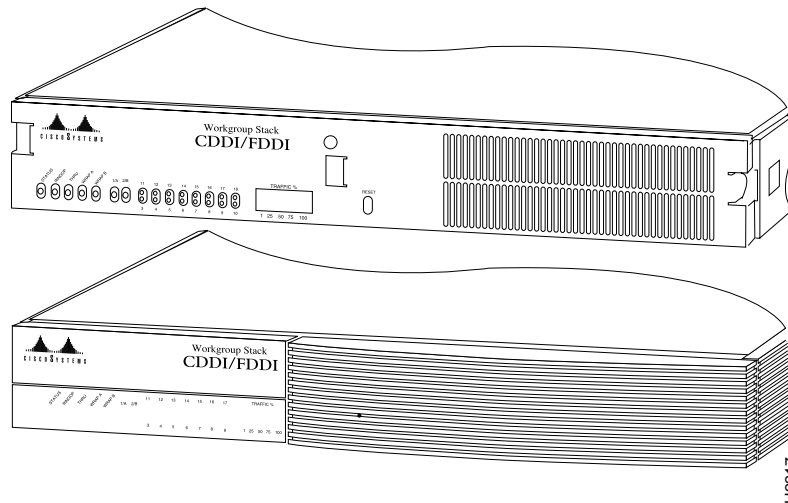
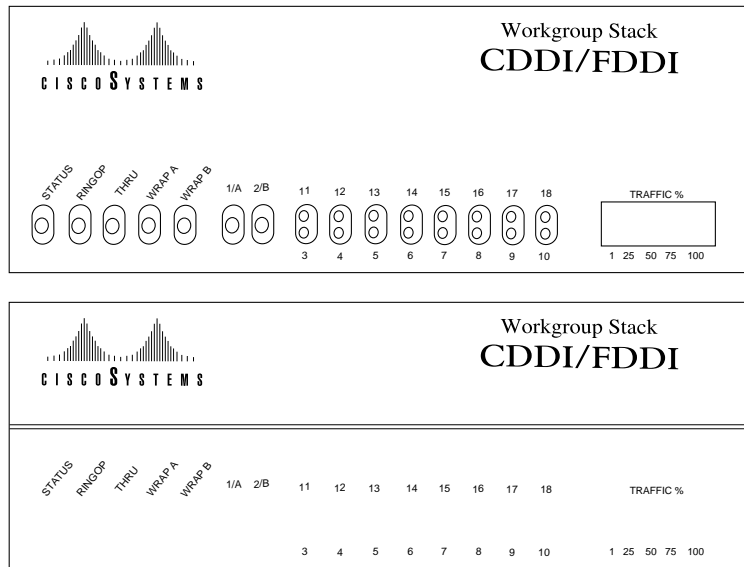
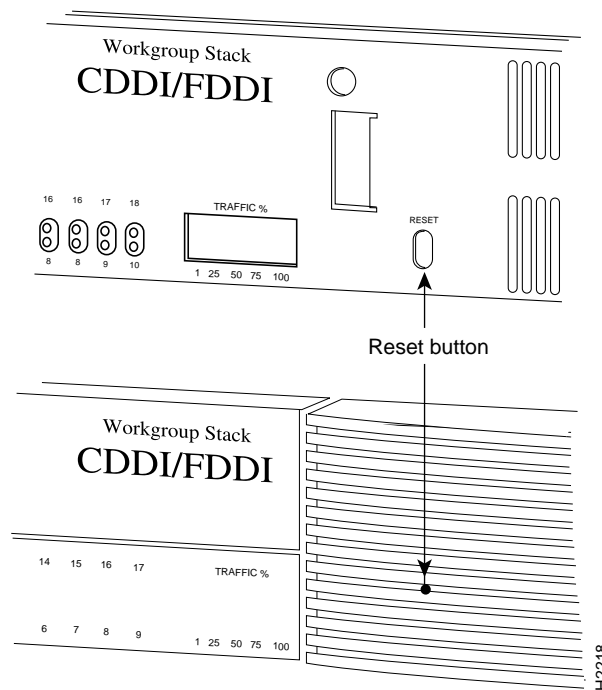

Figure 1-1 CDDI/FDDI Workgroup Concentrator—Front-Panel View
Figure 1-2 LED Indicators—Partial Front-Panel View
Figure 1-4 Reset Button—Partial Front-Panel View
The front panel of the concentrator has light-emitting diode (LED) indicators for concentrator, ring, and port status, and port traffic. There is also a reset button that is used to reset the system. (See Figure 1-1.)
**Note** In Figure 1-1, Figure 1-2, and Figure 1-4, the concentrator is shown with the plastic front panel removed and installed. The presence of this panel depends on your installation requirements.
The LEDs on the concentrator front panel (see Figure 1-2) indicate the status of the concentrator (faulty/not faulty), the status of the ring, the configuration state of the dual ring, and the status of each port.
You can access the reset button, which is located behind the front panel, through a small hole approximately one and a half inches to the right of the traffic meter LED. Using a thin tool, such as a paper clip, press the button, then release it to reset the concentrator. (See Figure 1-4.)